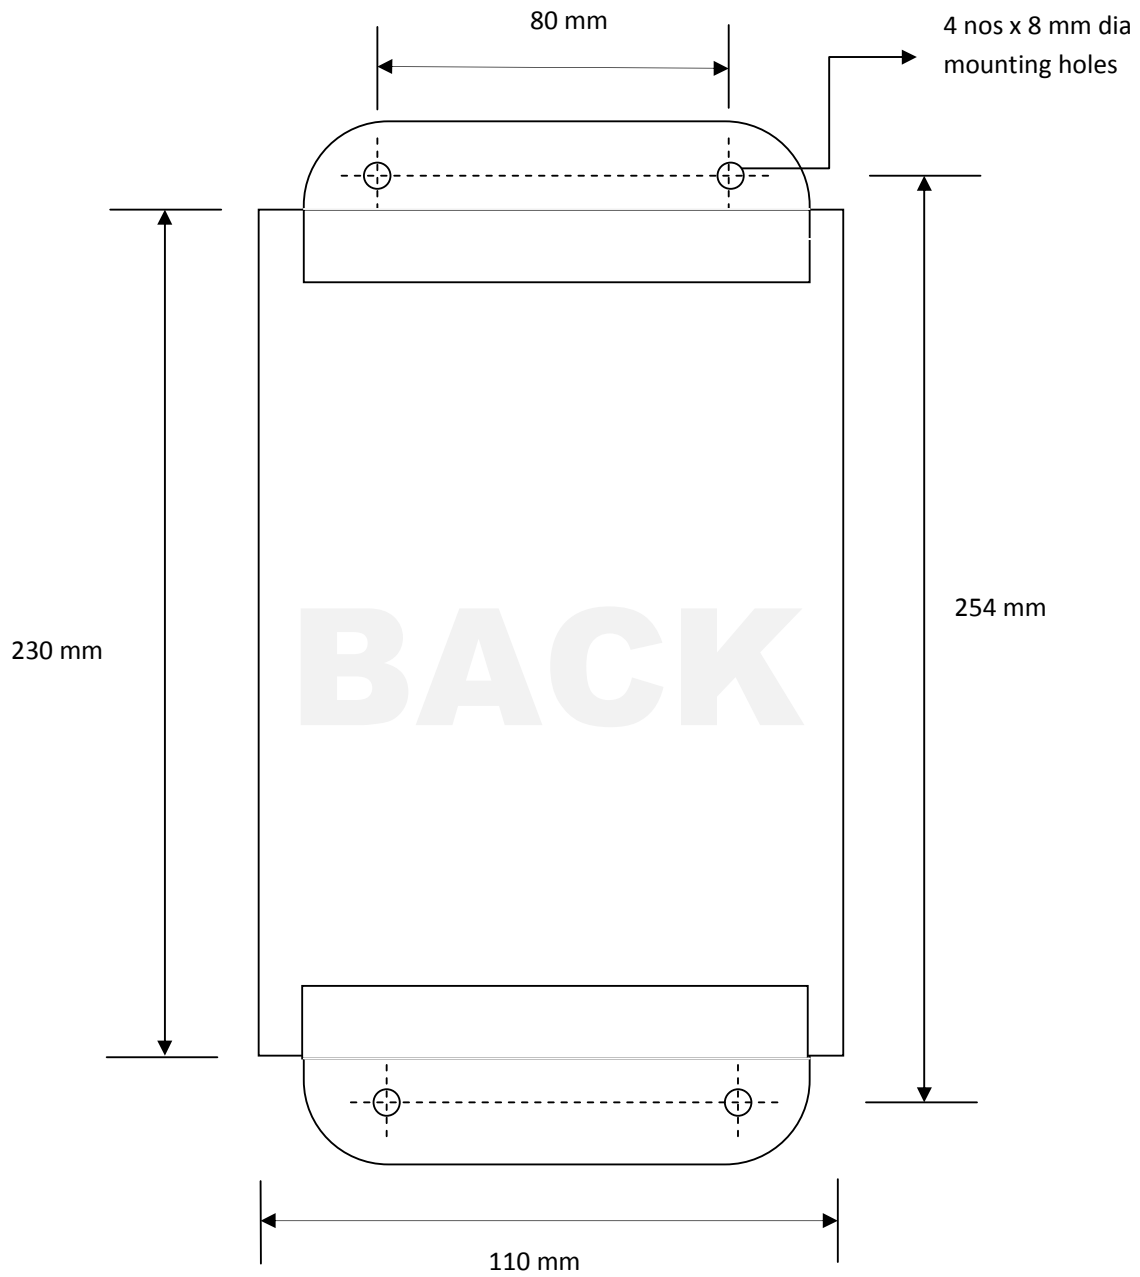

Fig.: 01
- Fix the unit by making holes & with the help of steel screws as shown in fig.: 01.